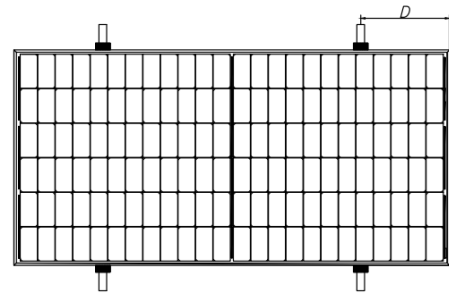
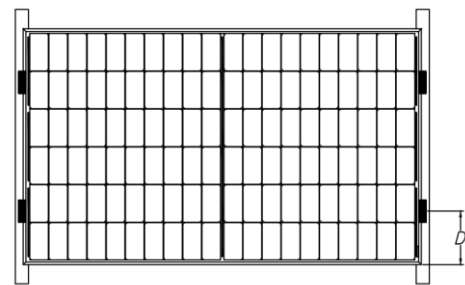
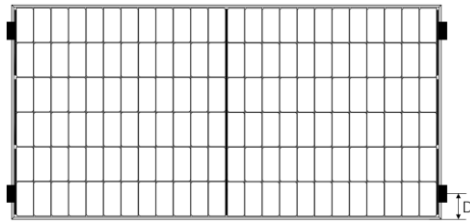

Fig. 11 Rails vertical to the long-side frame
Fig. 12 Rails overlapping the short-side frame
Fig. 13 Four clamp mounting on short side of frame
Photovoltaic modules can be installed across the support frame (Fig. 11) or parallel to the frame of the photovoltaic module (Fig. 12). PV modules can also be installed with four fulcrums (Fig 13). When using clamps to install, each module must be secured with a minimum of 4 clamps.
- ⑧ For the mounting shown in Figure 12, the overlap between the C surface of the assembly and the rail should be $\geq 25\text{mm}$. Astronergy's limited warranty will be void if improper clamps or improper installation is used
| | | Fig 2 & Fig 3 & Fig 4 & Fig 5 | Fig 6 | Fig 11 | Fig 12 | Fig 13 | Fig 7 & Fig 8 & Fig 9 |
| | | Fig 2 & Fig 3 & Fig 4& Fig 5 | Fig 6 | Fig 11 | Fig 12 | Fig 13 | Fig 7 & Fig 8 & Fig9 |